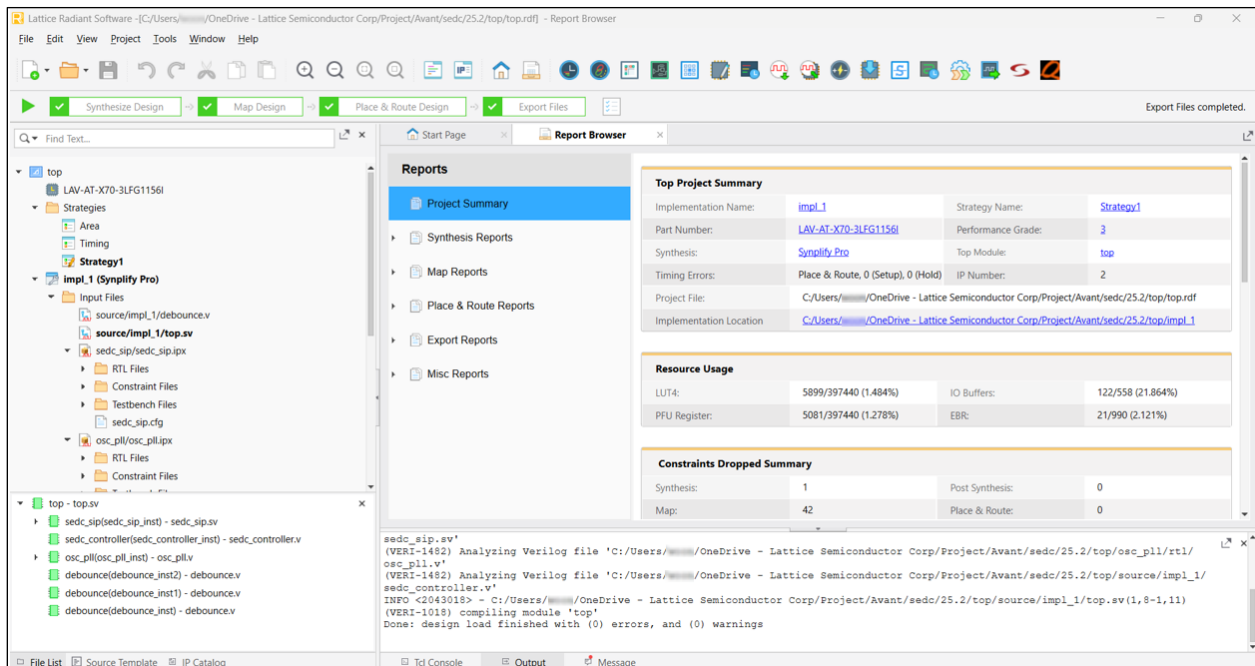

Figure 5.3. Generated Bitstream Log
- Click **Export Files** to generate the bit file. View the log message in the Export Reports folder for the generated bitstream, as shown in Figure 5.3. Once compilation is successful, the generated bit file can be found in the project implementation folder (for example, *top\impl_1\top_impl_1.bit*).